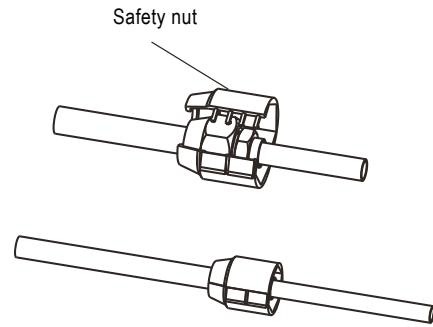

Fig. 5-5
- The protective nut is a one-time part, it can not be reused. In case it is removed, it should be replaced with a new one.(Refer to Fig. 5-5)